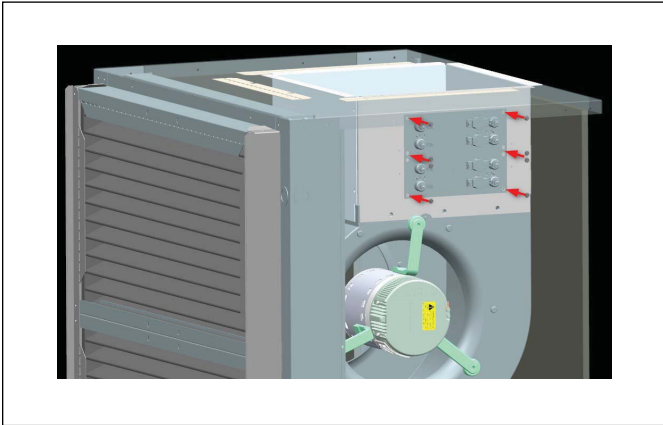

Figure 24
- Screw the heating elements into place after they have been successfully inserted (figure 24).